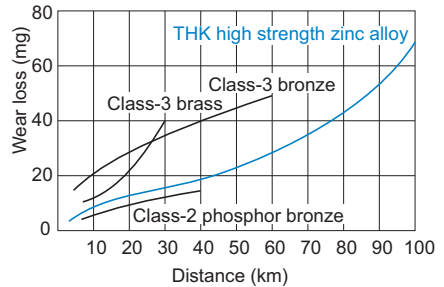

Fig.1 Wear Resistance of the High Strength Zinc Alloy
With a sliding bearing, a pV value, which is the product of the contact surface pressure (p) and the sliding speed (V), is used as a measuring stick to judge whether the assumed model can be used. Use the corresponding pV value indicated in Fig.1 as a guide for selecting a spline nut. The pV value also varies according to the lubrication conditions.
Fig.1 pV Value